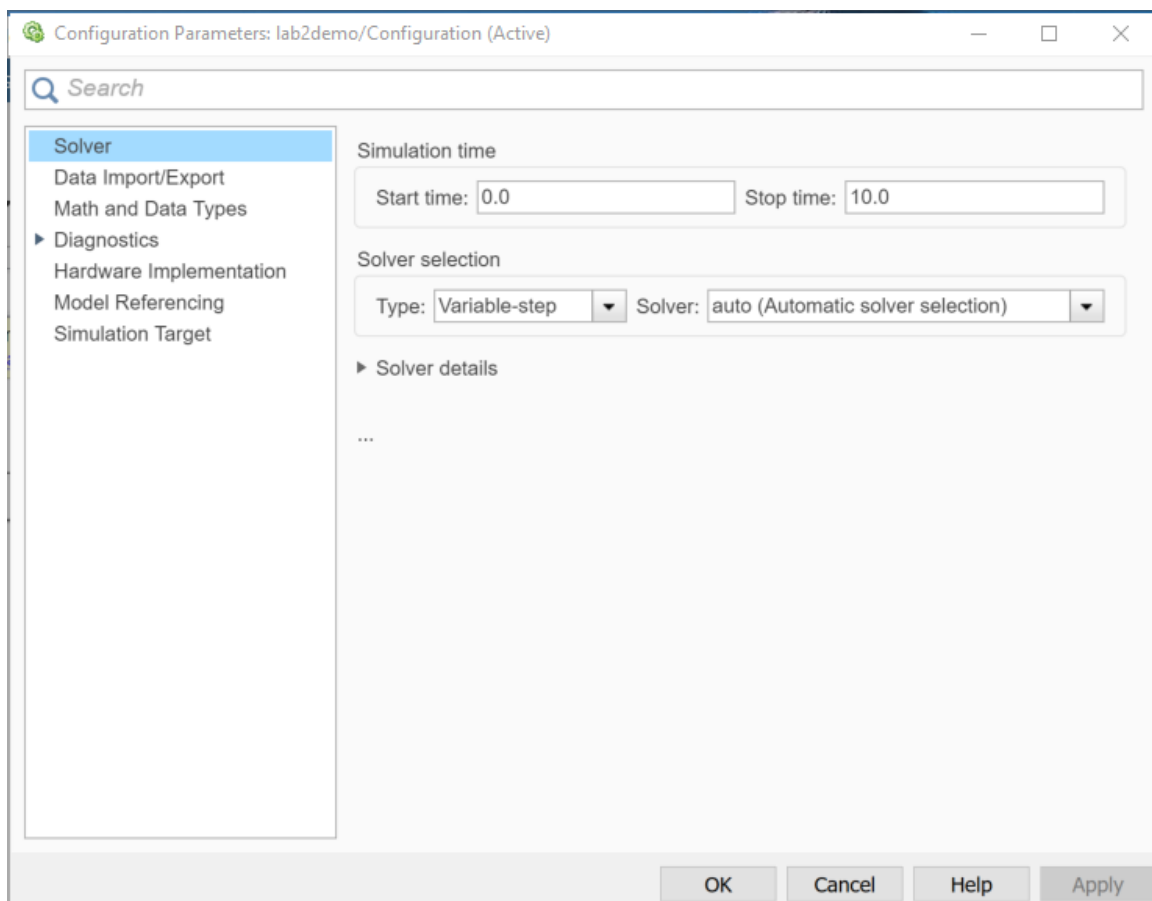

Figure 1. Configuration Parameter window for Simulink Simulation.
1. Select the **MODELING** tab of your model window, click the arrow by the **Model Settings**, and then select **Model Settings**. You will discover that Simulink has an extensive array of parameters that can be set (see Figure 1).